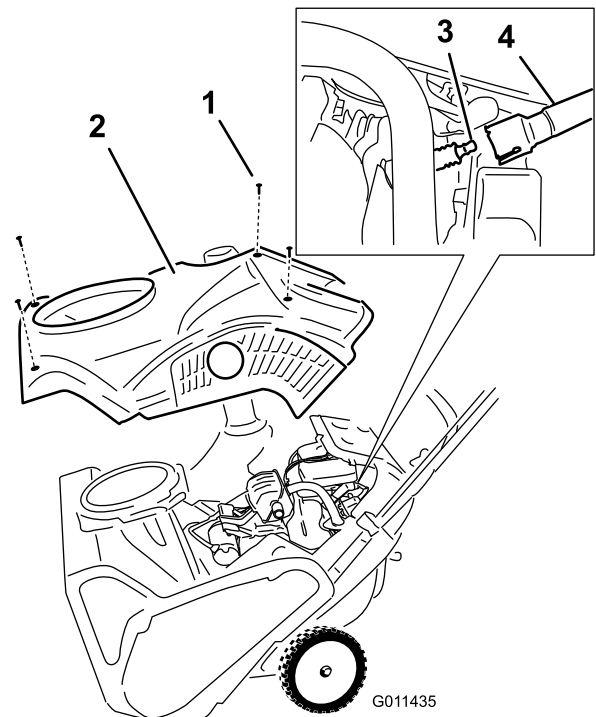

Figure 26
4. Remove the 4 screws that secure the shroud (Figure 26).
1. Screw (4)
6. Remove the shroud (Figure 26).